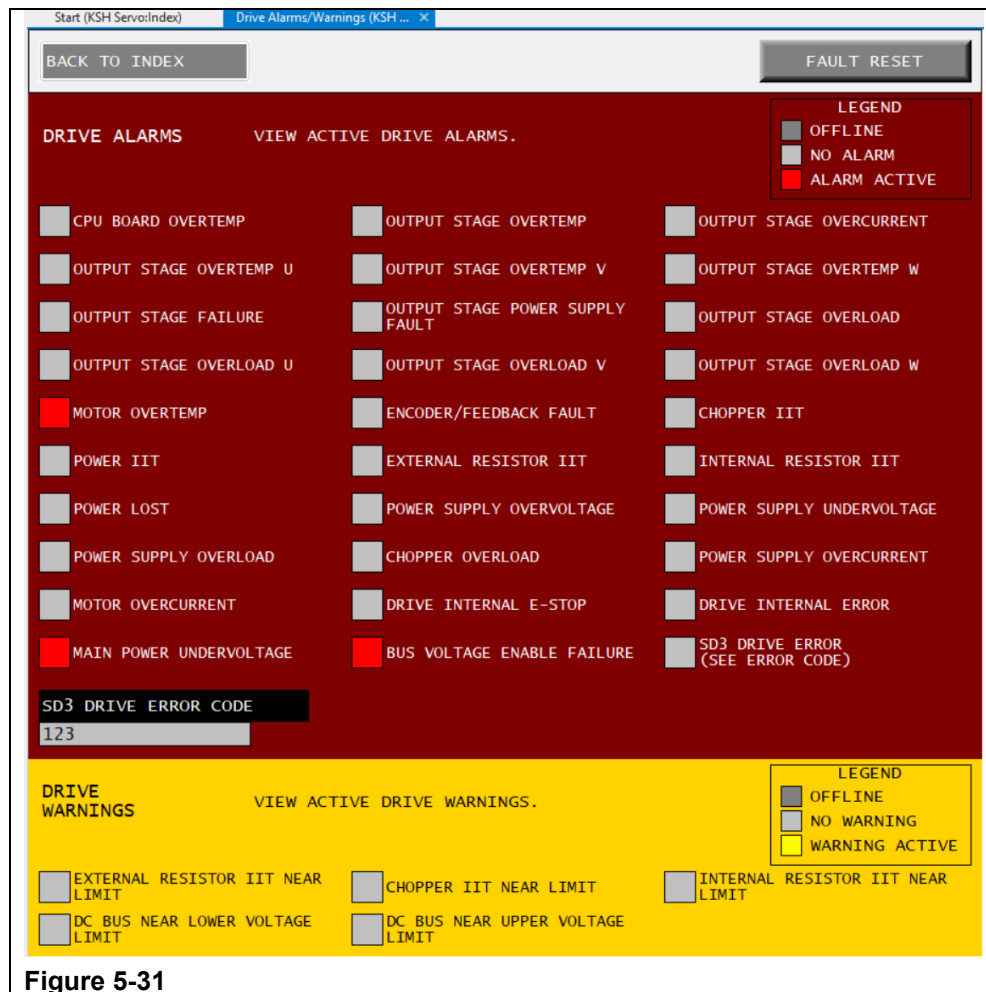

Figure 5-31
- Step 24. Check for any Drive Faults or Warnings. A fault will be shown by an illuminated red box next to the fault’s description on the Active Fault screen. A warning will be shown by an illuminated yellow box next to the warning description See Section 7.B. for details. (See Figure 5-31)